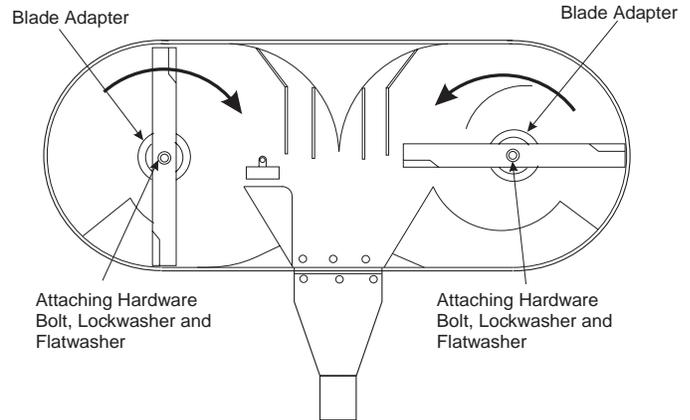

Figure 7-10 Blade Replacement
3. Using the Blade Buddy accessory, remove the attaching bolt, lockwasher, flatwasher and the spacer. Remove the cutter blade and blade drive adapter from the spindle shaft. (Figure 7-10).
4. Remove the cutter blade from the blade drive adapter by removing the (2) two # 10-32 X 1/2" socket head capscrews, elastic stop nuts and spacers.
The blade must be installed 90° to each other as shown in Figure 7-10. If the blades are not installed as shown, they will contact each other and could cause severe damage to the blades, deck, and blade drive system.